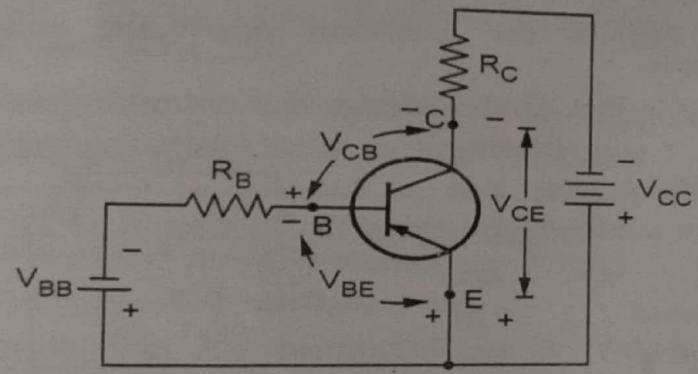

Fig. Q.12.2 Voltage source connection for pnp transistor
• The Fig. Q.12.2 shows the terminal voltages and its polarities for a pnp transistor. For a pnp transistor, the base is biased negative with respect to the emitter, and the collector is made more negative than the base.
• Fig. Q.12.2 shows the pnp transistor with voltage source connections. Like npn transistor voltage sources are connected with series resistors. The source voltage positive terminals are connected at the emitter with V_{CC} larger than V_{BB} to keep collector-base junction reverse biased.